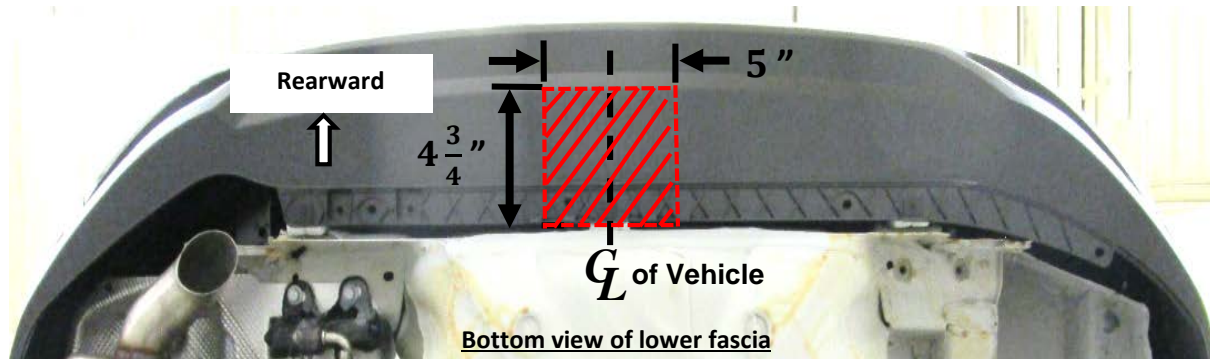

Figure 3
10. Trim lower fascia –Using a tape measure, marker, and utility knife, measure, mark, and trim the lower fascia as shown in Figure 3.